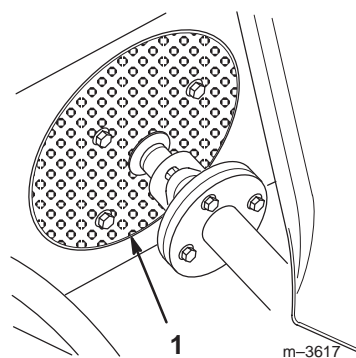

Figure 8
4. Wipe away any accumulated debris from the rotating air-intake screen (Fig. 8).